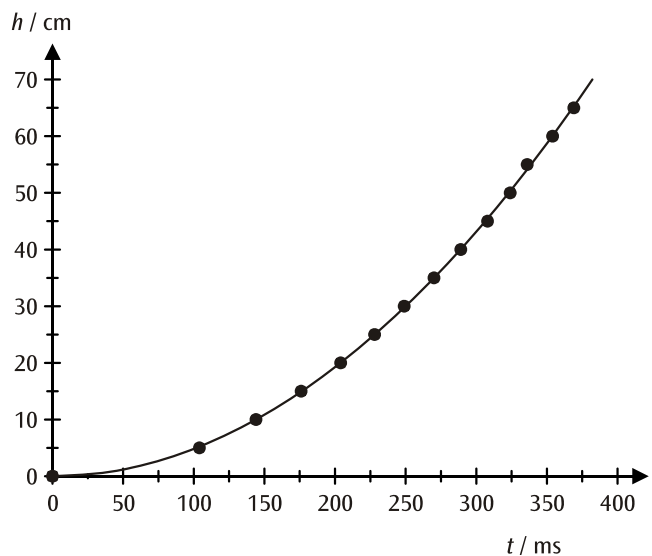

Fig. 3: Displacement/time diagram for free fall
a) Plotting the measurement results in a displacement/time diagram (see Fig. 3):